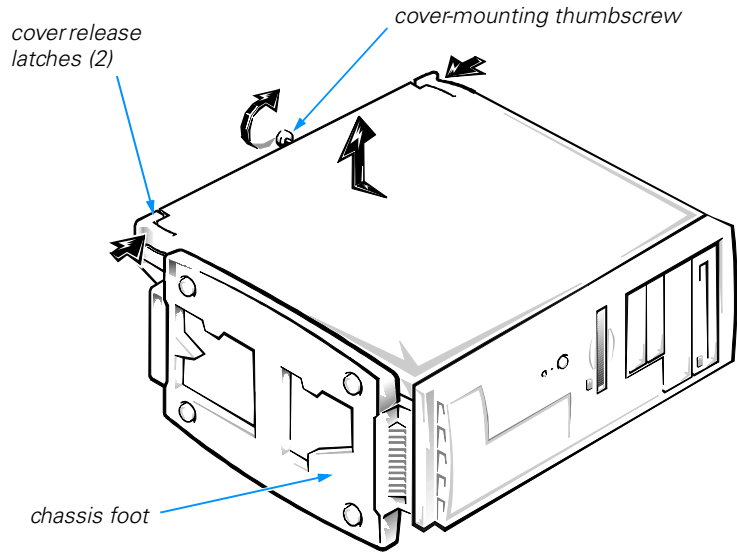

Figure 2-1. Removing the Computer Cover (Mini Tower Chassis)
3. Loosen the cover-mounting thumbscrew shown in Figure 2-1 that secures the cover to the back of the computer.